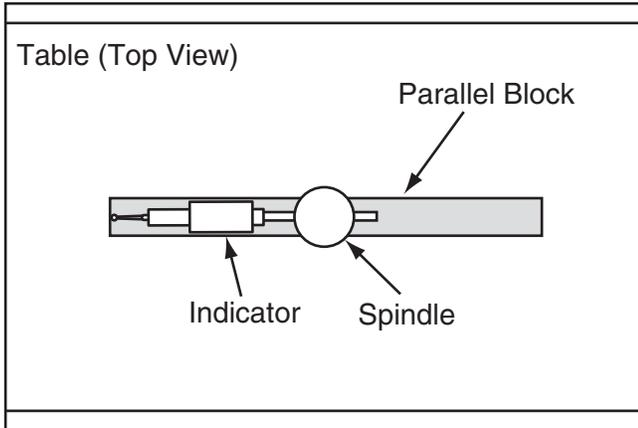

Figure 78. Setup for the X-axis adjustment.
- To measure spindle alignment along X-axis, place the parallel block directly under spindle and indicator across length of table, as illustrated in **Figure 78**.
- Rotate spindle by hand so that the indicator point rests on one end of parallel block, as illustrated in **Figure 78**, then zero dial.